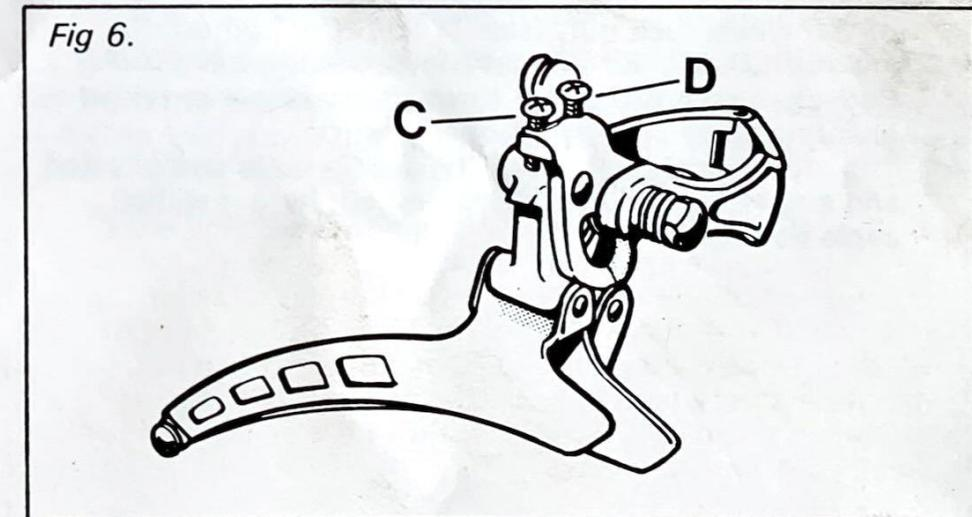

Fig 6.
The movement of the front changer should be just sufficient to move the chain from one chainwheel to the other and back when the rear mechanism is on any sprocket. Excessive movement is dangerous and could result in the chain leaving the chain rings. Adjustment screws (C) and (D) (Fig 6.) control travel movement.